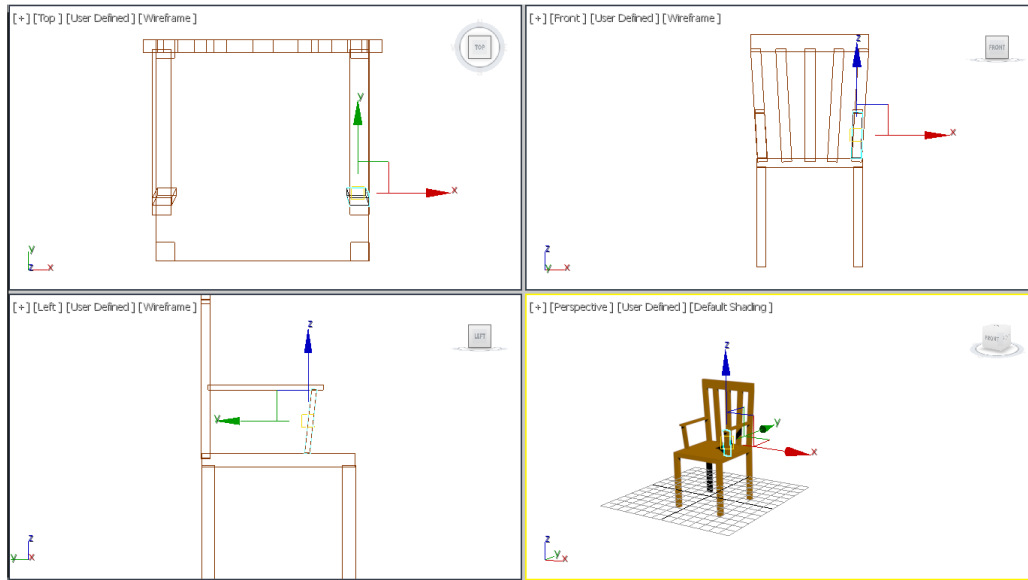

Figure 2-65 Alignment of boxes in the viewports
17. Create a copy of both the boxes created above and align them with *base*, as shown in Figure 2-65.